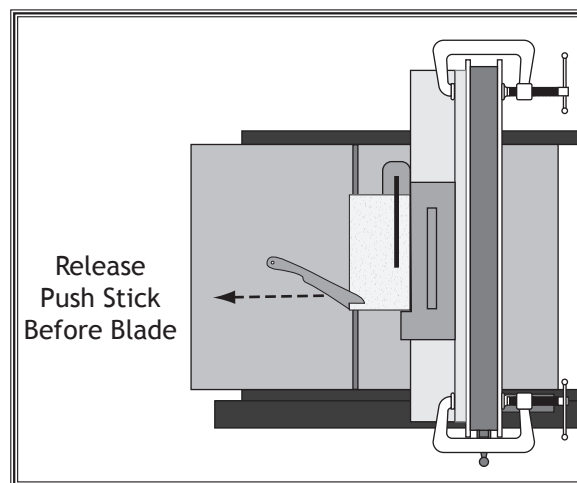

Figure 80. Performing the rip cut.
6. Guide the workpiece the rest of the way through the cut with the push block, as shown in Figure 80.